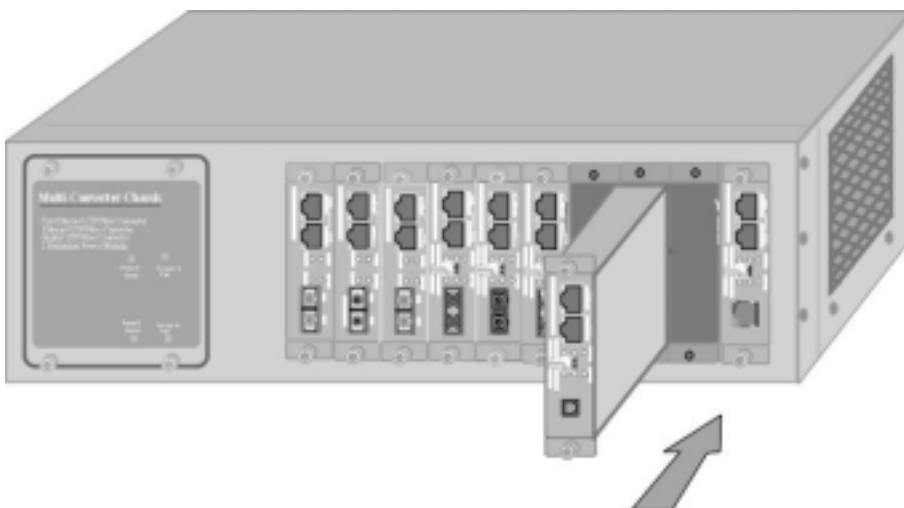

Figure 3-12. Installing Modular Converters into Chassis Slot
- d. Install the modular converter by inserting it into the guides and sliding it in until it stops. Press it firmly until the power plug in the chassis plugs into the modular converter receptacle. Slide the modular converter in smoothly. (See Figure 3-12)